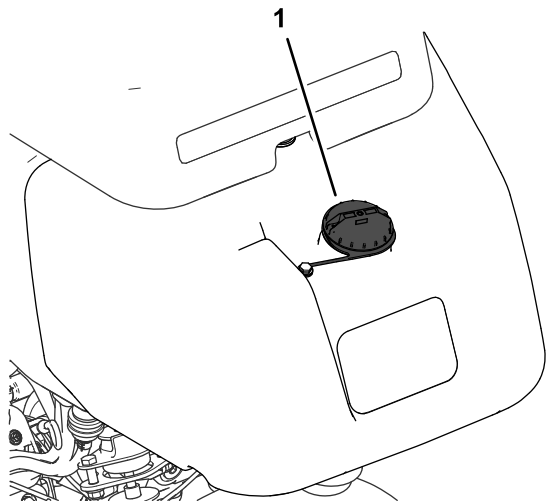

Figure 32
1. Clean around the fuel-tank cap and remove it (Figure 32).